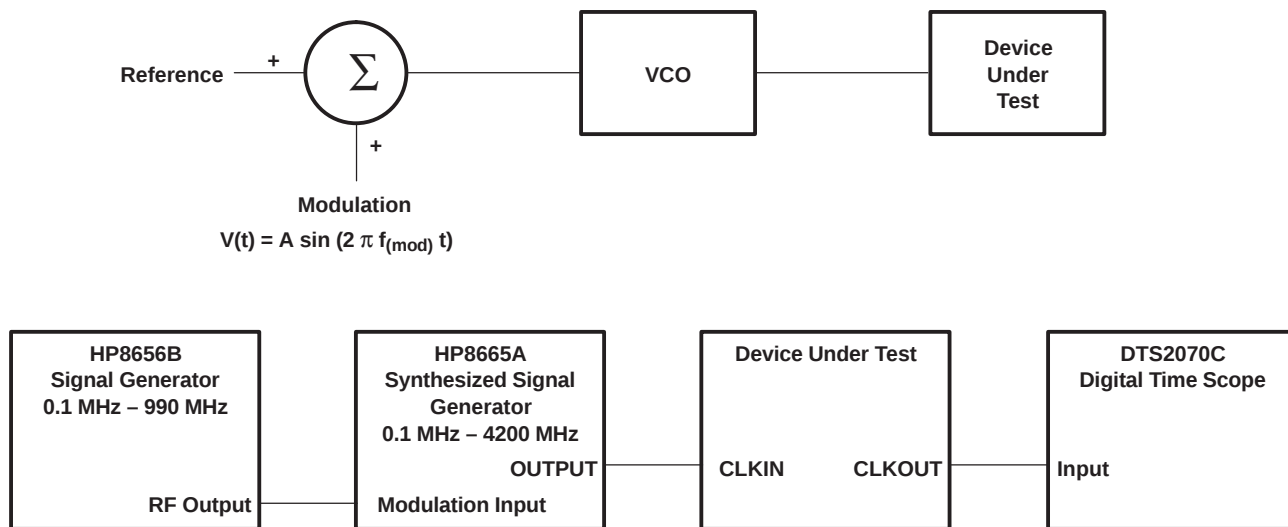

Figure 6. Output Clock Jitter Test Setup
| $\Delta t_{c(o)}$ Output clock cycle-to-cycle jitter (3)  | $t_c = 15.38 \text{ ns} + 0.75\sin(2\pi 500\text{E}3t) \pm 0.05 \text{ ns}$ , See <a href="#">Figure 6</a>               |                         | ±80                     |      | ps   |
|                                                                      | $t_c = 15.38 \text{ ns} + 0.75\sin(2\pi 3\text{E}6t) \pm 0.05 \text{ ns}$ , See <a href="#">Figure 6</a>                 |                         | ±300                    |      | ns   |